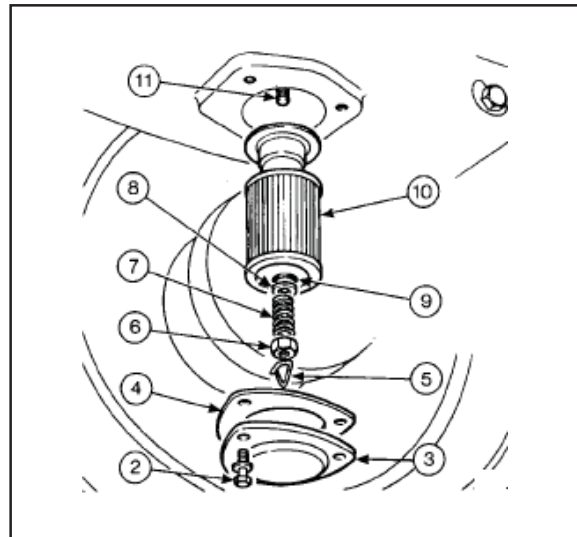

Fig.107
1. Drain the oil by removing the two drain plugs (Fig. 107) as described on previous page.
2. Remove the three bolts (2, Fig. 107) and washers securing the cover plate (3) to the bottom of the center housing.
3. Remove the clip (5), nut (6), spring (7), washer (8) and 'O' ring (9).
4. Pull out the strainer (10).
7. Check that the strainer stud (11) is tight in the pump housing.
8. Check that the 'O' ring is seated in the pump, then refit the strainer (10).
9. Refit the 'O' ring (9), washer (8), spring (7), nut (6) and the clip (5).
10. Using a new gasket (4), refit the cover plate (3), with the three bolts (2) and washers.